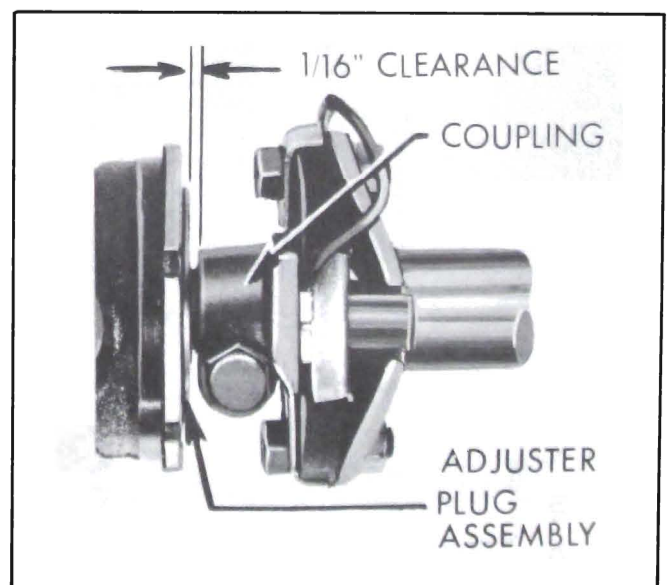

Figure 8-35—Correct Installation of Lower Coupling
3. On Synchronesh cars install lower coupling on gear stub shaft. There must be at least 1/16" clearance between coupling and adjuster plug. See Figure 8-35.
7. Align flat section in lower flange with flat on stub shaft and install flange. Center bolt hole on flange with groove on stub shaft. Install pinch bolt and tighten to 30 ft. lbs. There must be at least 1/16" clearance between coupling and adjuster plug. See Figure 8-35.
5. Align flat section in lower flange with flat on stub shaft and install flange. There must be at least 1/16" clearance between coupling and adjuster plug. See Figure 8-35. Center bolt hole on flange with groove on stub shaft.